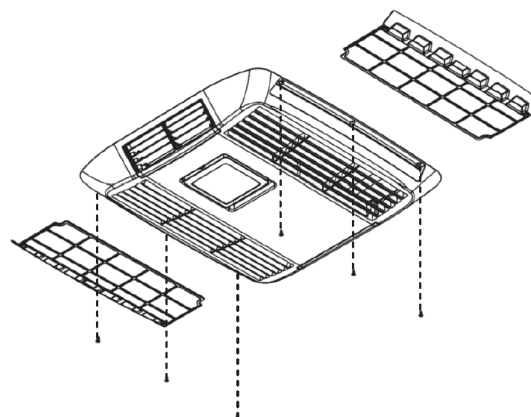

Fig 16: Remove the plenum filters and use the six self tapping screws to secure the plenum over to the ceiling of the caravan. Be sure not to over tighten.
TIP: Remove the filters to make hole alignment easier. (Fig 16).
- Remove the filter elements by pulling them out of the plenum, and use the six self tapping counter sunk screws to secure the cover's edges to the caravan ceiling (Fig 16). In some instances a very small pilot hole may need to be drilled to guide the screws into place.